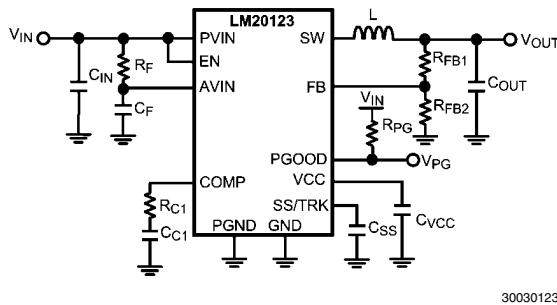

FIGURE 2. Typical Application Circuit
The LM20123 switching regulator features all of the functions necessary to implement an efficient low voltage buck regulator using a minimum number of external components. This easy to use regulator features two integrated switches and is capable of supplying up to 3A of continuous output current. The regulator utilizes peak current mode control with nonlinear slope compensation to optimize stability and transient response over the entire output voltage range. Peak current mode control also provides inherent line feed-forward, cycle-by-cycle current limiting and easy loop compensation. The fixed 1.5 MHz operating frequency minimizes the inductor size while still achieving efficiencies up to 96%. The precision internal voltage reference allows the output to be set as low as 0.8V. Fault protection features include: current limiting, thermal shutdown, over voltage protection, and shutdown capability. The device is available in the eTSSOP-16 package featuring an exposed pad to aid thermal dissipation. The LM20123 can be used in numerous applications to efficiently step-down from a 5V or 3.3V bus. The typical application circuit for the LM20123 is shown in *Figure 2* in the design guide.
This section walks the designer through the steps necessary to select the external components to build a fully functional power supply. As with any DC-DC converter numerous trade-offs are possible to optimize the design for efficiency, size, or performance. These will be taken into account and highlighted throughout this discussion. To facilitate component selection discussions the circuit shown in *Figure 2* below may be used as a reference. Unless otherwise indicated all formulas assume units of amps (A) for current, farads (F) for capacitance, henries (H) for inductance and volts (V) for voltages.
pins, a high frequency RC filter is required between PVIN and AVIN. These components are shown in *Figure 2* as  $C_F$  and  $R_F$ . The required value for  $R_F$  is 1Ω.  $C_F$  must be used. Recommended value of  $C_F$  is 1.0 μF. The filter capacitor,  $C_F$  should be placed as close to the IC as possible with a direct connection from AVIN to AGND. A good quality X5R or X7R ceramic capacitor should be used for  $C_F$ .